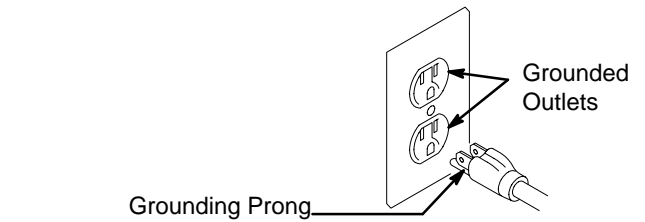

Fig. 3
1. This equipment requires a 120 Vac, 60 Hz, 15A circuit with a grounding receptacle. See Fig. 3.